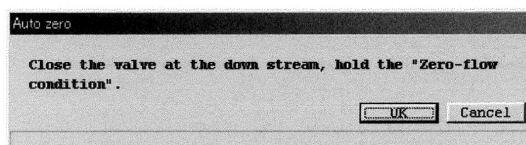

Fig.97
- ② A message box as shown in Fig. 97 appears. Stop the flow completely first and then click on "OK".